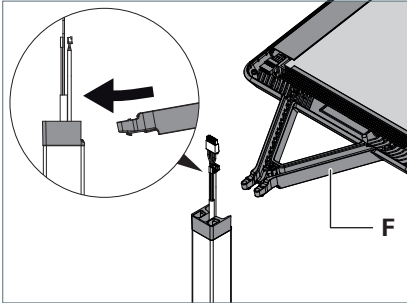

Fig. 3: Mounting the luminaire head.
- ▶ Insert the supporting arm **F** of the luminaire head tilted downwards slightly to the stop into the adapter, see Fig. 3.